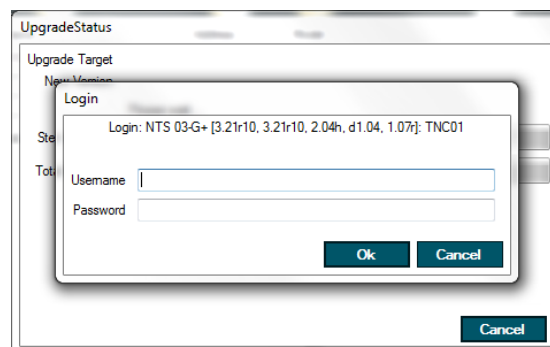

Figure 4. Login window
5. **Security:** If security is enabled on the clock, the user will be prompted for login details. You will need to enter the credentials of a user who has administrative privileges before the upgrade process will begin (Figure 4).